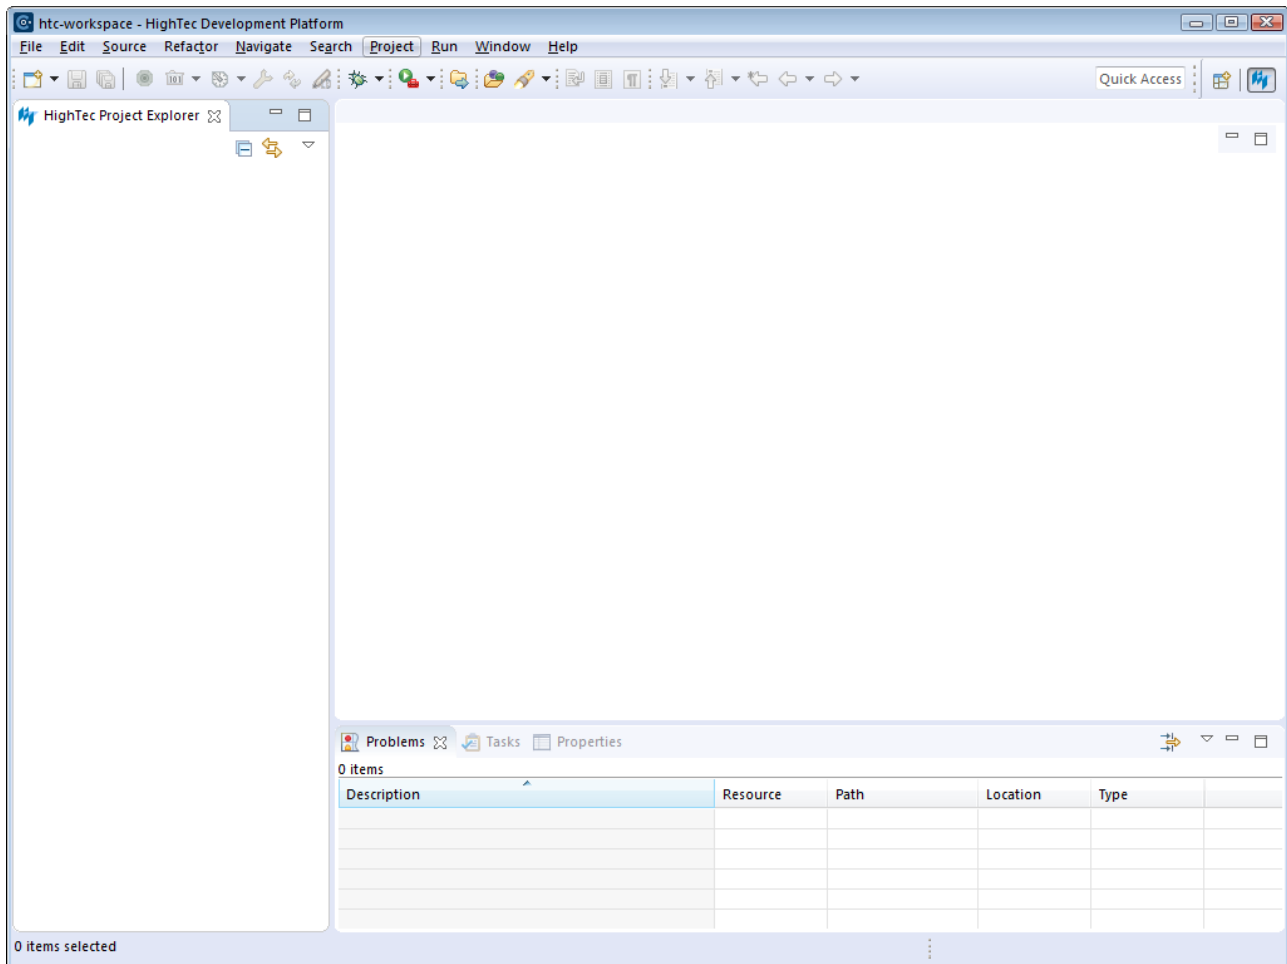

Figure 9 HighTec IDE perspective
6. Click the **Get to Work** on the left side of the view to go to the workbench. Assuming first start of eclipse, **HighTec perspective** (Figure 9) appears, otherwise last saved workbench layout.